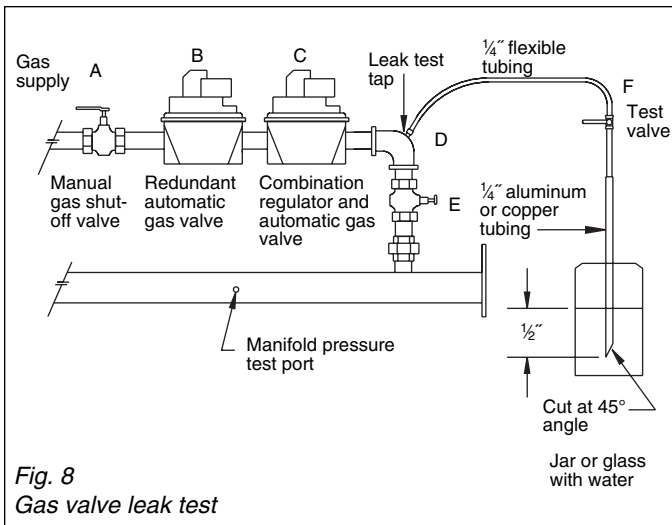

Fig. 8
1. De-energize the control system to ensure that there is no power to the safety shut-off valves (B) and (C), shown in Fig. 8.
2. Close the upstream manual gas valve (A).
3. Make sure the manual test valve (F) is closed in the leak test tap assembly (D).
4. Remove the leak test tap plug and connect the test apparatus to the leak tap (D).
5. Close the downstream manual gas valve (E).
6. Open the upstream manual gas valve (A).
7. Run the safety shut-off valves (B) and (C) to their fully open positions (through the safety system); then immediately de-energize the system to close the valves.